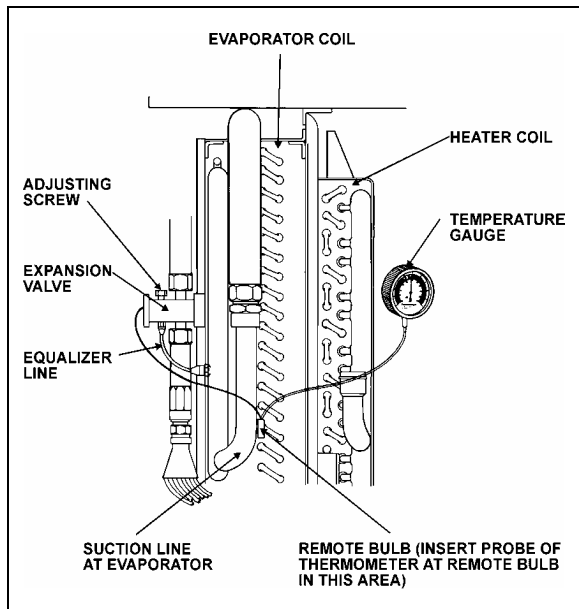

FIGURE 31: SUPERHEAT ADJUST. INSTALLATION 22046
The easiest method of adjusting the superheat is to unscrew completely the main evaporator expansion valve adjusting screw, and screw in 13 turns clockwise for 134A (Figure 31). If this method does not provide an accurate superheat, the following procedure should be followed:
3. Install a remote reading thermometer to the evaporator outlet line near the existing remote bulb (Figure 31).